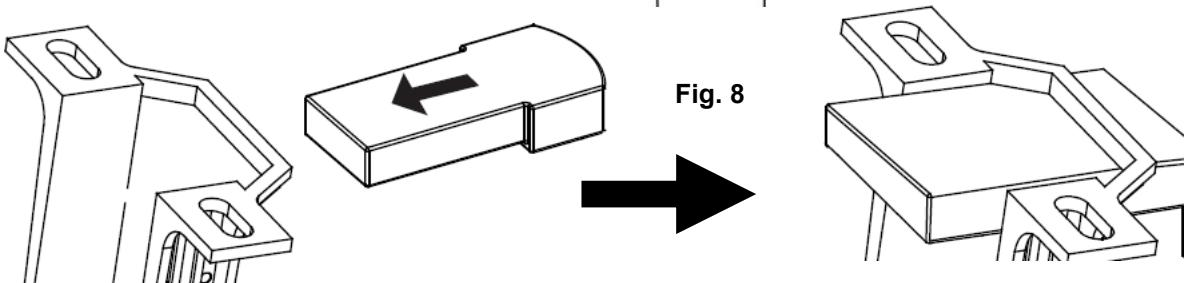

Fig. 8
- Carefully insert the Remote Receiver above the hanger ball in the remainder spacing in the mounting bracket. Take care not to damage or loosen any of the wiring. (Fig. 8).